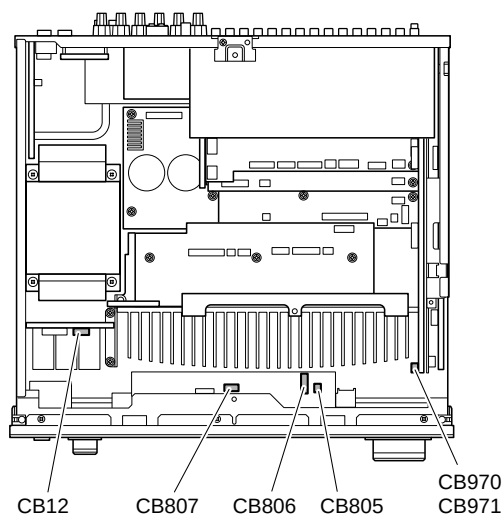

Fig. 2
b. Remove CB12, CB805-807, CB970 and CB971. (Fig. 2)
(Fig. 2)